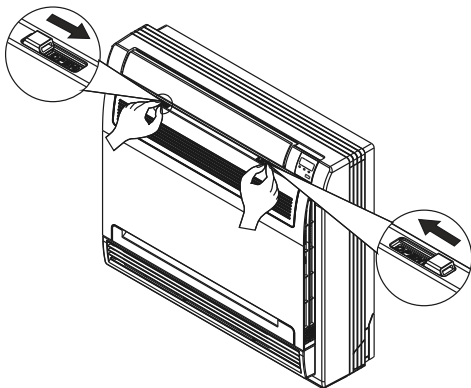

Fig.50-6
- Slide the two stoppers on the left and right sides inword until they click. See Fig.50-6.